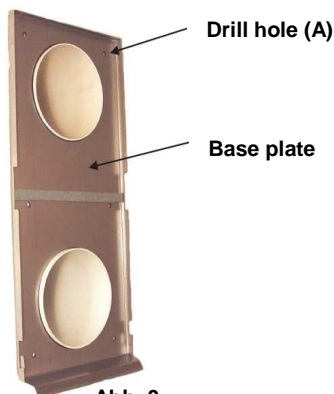

Abb. 3
3. Place the base plate on the façade. Mark the drilling holes (Abb. 3 (A)). Drill holes 6mm, insert the dowels and then fixate the base plate with the supplied screws (4,5x 40 mm) on the façade.